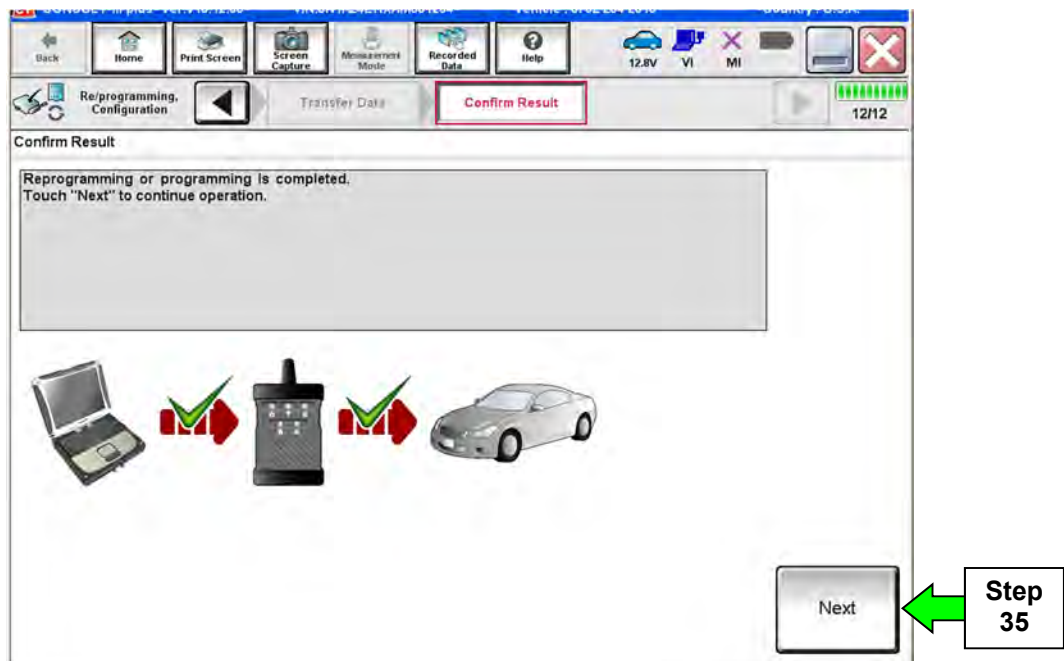

Figure 18
33. When the screen in Figure 18 displays, the reprogramming is complete.
**NOTE:** If the screen in Figure 18 does not display (reprogramming does not complete), refer to the information on the next page.